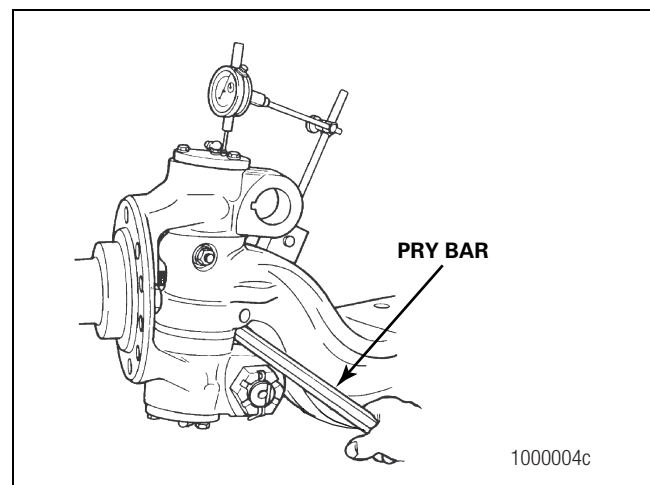

Figure 5
- Measure the vertical end play. Add or remove shims until the end play is within specification for your application. Refer to Maintenance Manual 2 for complete end play check procedures and specifications. Figure 5.